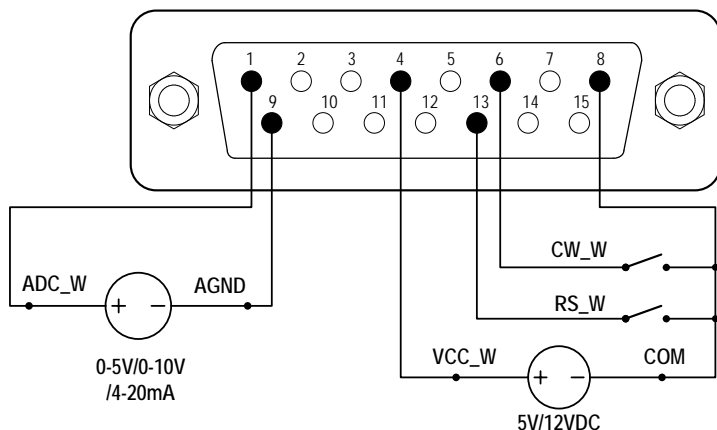
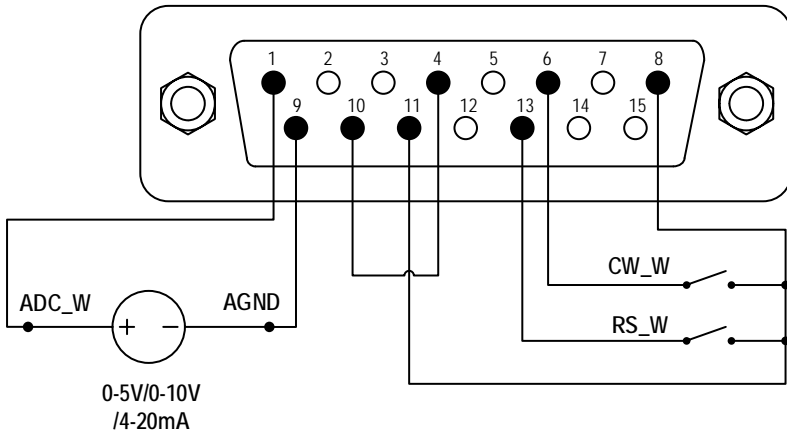

Figure 39. DB15 Wiring with External 5V or 12VDC Power Source
Figure 40. DB15 Wiring with Internal 12VDC Power Source
- 1) Switch the power off. Wire the DB15 connector as shown on Figure 39 or Figure 40, and connect it to the DB15 port on the rear of the pump.